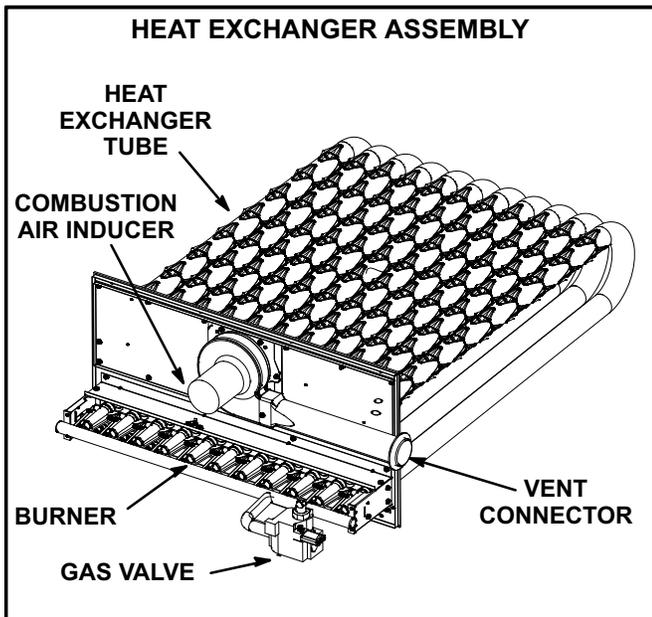

FIGURE 23
- 3- Remove and retain screws securing combustion air inducer to flue box. Remove vent connector. See figure 23.